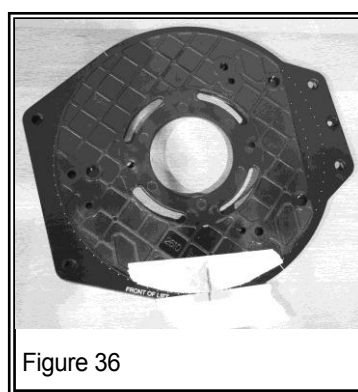

Figure 36
4. Center the router sub-base on the blank plate by aligning the two marks made in Step 1 (see Figure 36). Ensure the sub-base is also centered relative to the engraved rings on the blank plate.